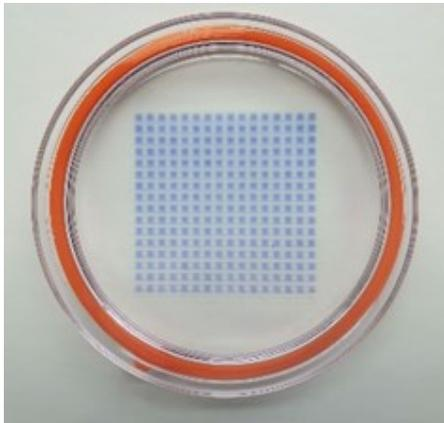

Figure 1
3. Once the program has completed, confirm your dish looks as in Figure 1. If this is not the case, please contact iotaSciences.